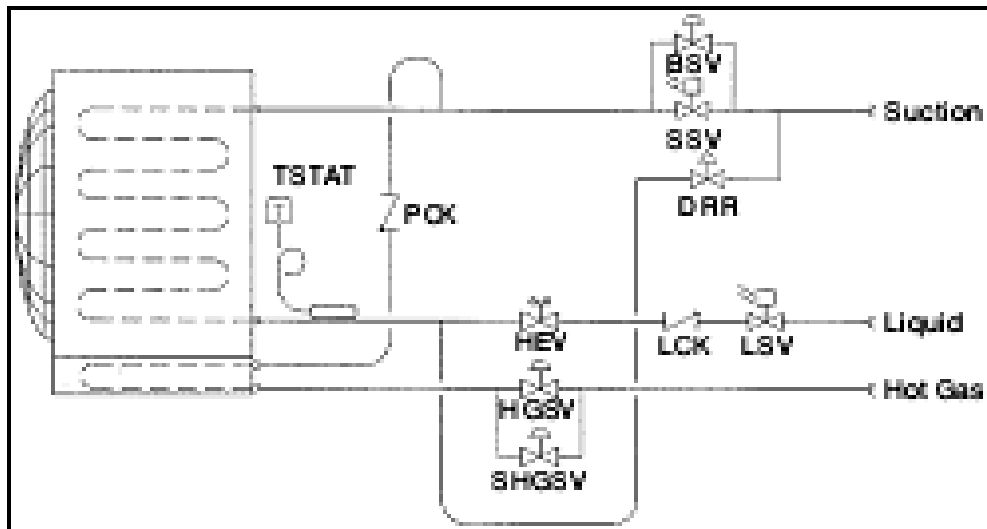

Figure Q3-1. (A)
- (a) Refer to figure Q3-1. (A) below write down the sequence of operation and time taken to complete each process. (25 marks)